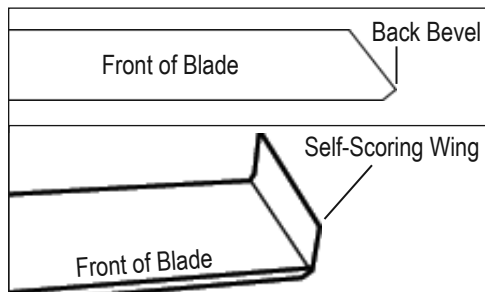

FIG. 8
Dull blades greatly reduce cutting ability. Sharpen or replace as needed. In use, blades develop a back-bevel. When sharpening, blade will not be completely sharp until all back-bevel is gone (Figure 8).
**Self-Scoring Blade Sharpening:** It is important to keep the "wings" on a self-scoring blade sharp. Use a file on the wing edge (Figure 8). Sharpen the flat part of the blade, the same way as described above.